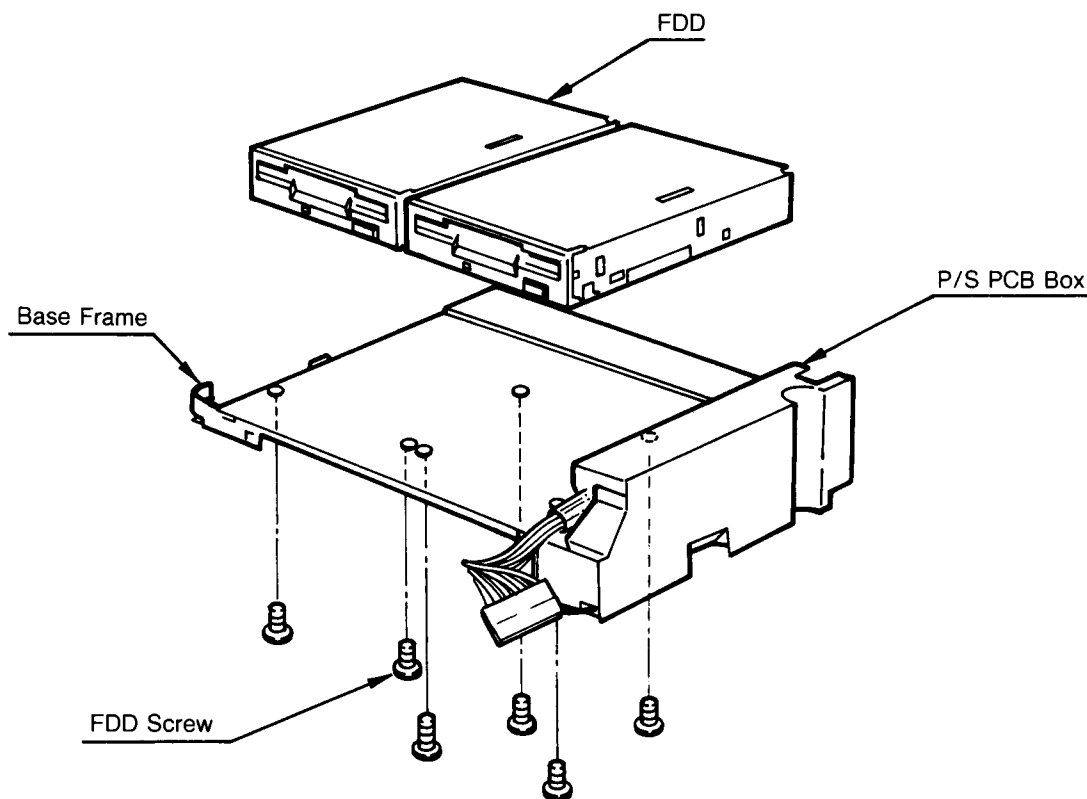

Figure 2-17. FDD Removal
- (1) Turn over the Base Frame with FDD's and remove six FDD screws. (Figure 2-17)